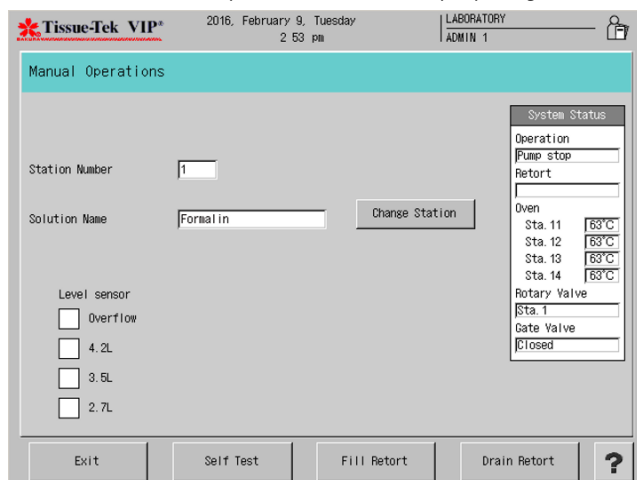

Figure 3-GG
- A Manual Operations screen displays (Figure 3-GG).